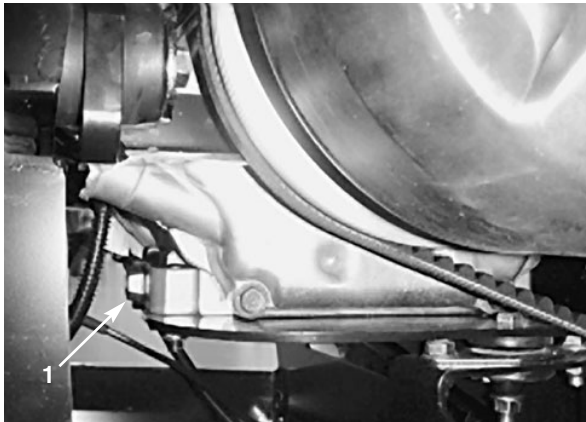

Figure 17
5. Remove the drain plug (Fig. 17) and let the oil flow into a drain pan. When the oil has drained completely, install the drain plug and torque it to 13 ft.-lb. (17.6 N•m).